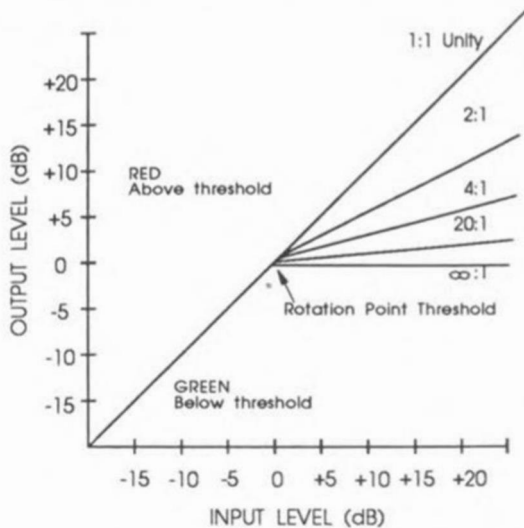

Figure 12: Hard-Knee Compression Curve
A. **THRESHOLD control (and LED indicators):** In hard-knee mode this control sets a reference level above which input signals will be processed by the 160XT's gain change circuitry in the manner defined by the setting of the RATIO control. Input signals which fall below this level will pass through the 160XT unprocessed (except for fixed gain changes directed by the output control). See Figure 12.